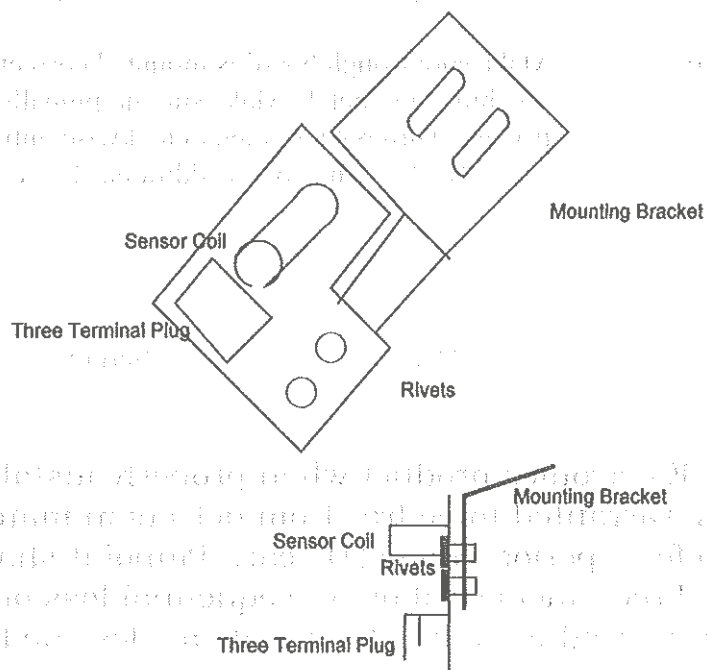

Figure 1
4. Install the bracket onto the new 16535 trough board with the same orientation as the original. See Figure 1 for a representative example.